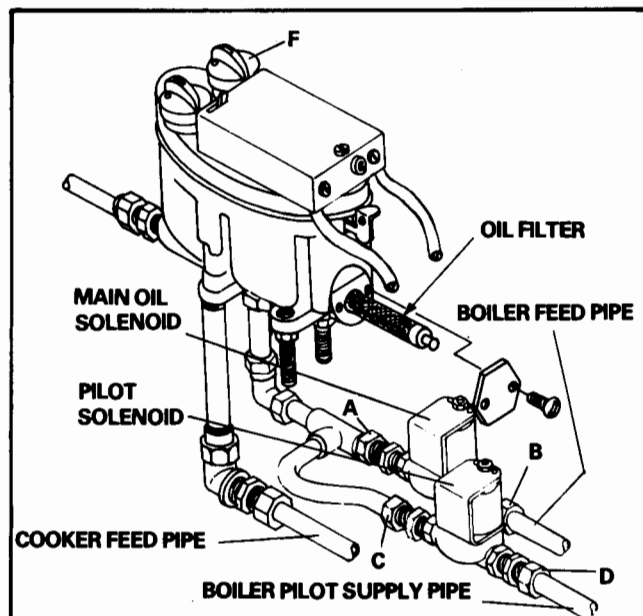

Fig. 9
8. To Remove Main Oil Solenoid – See Fig. 9
9. To Remove Pilot Oil Solenoid See Fig. 9.